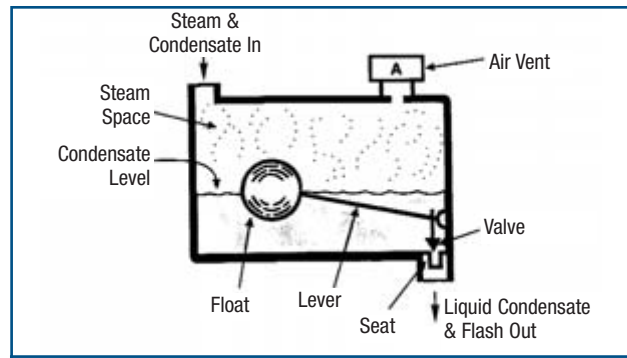

Figure 7. Float and Thermostatic Steam Trap
**Float and Thermostatic (F&T) traps.** Float and thermostatic (F&T) traps are similar to float and lever traps except they include a thermostatic element that allows air to be discharged at start-up and during operation. The thermostatic elements used in these traps are the same as those used in thermostatic traps. The configuration of a float and thermostatic steam trap is shown in Figure 7.